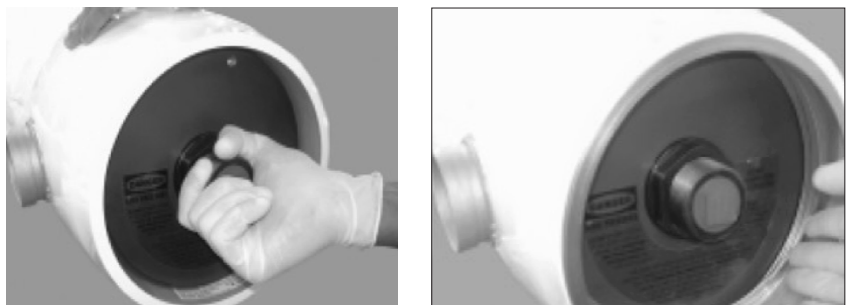

Figure 15
- Begin installing the retaining ring into the groove as you rotate your hand around the inside of the shell. See **Figure 15**.